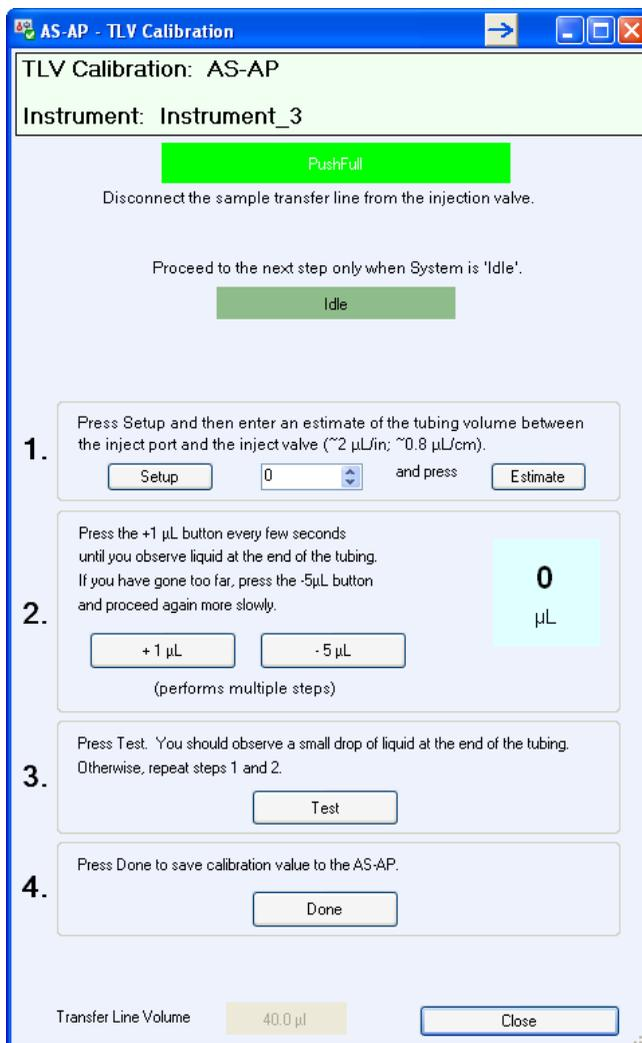
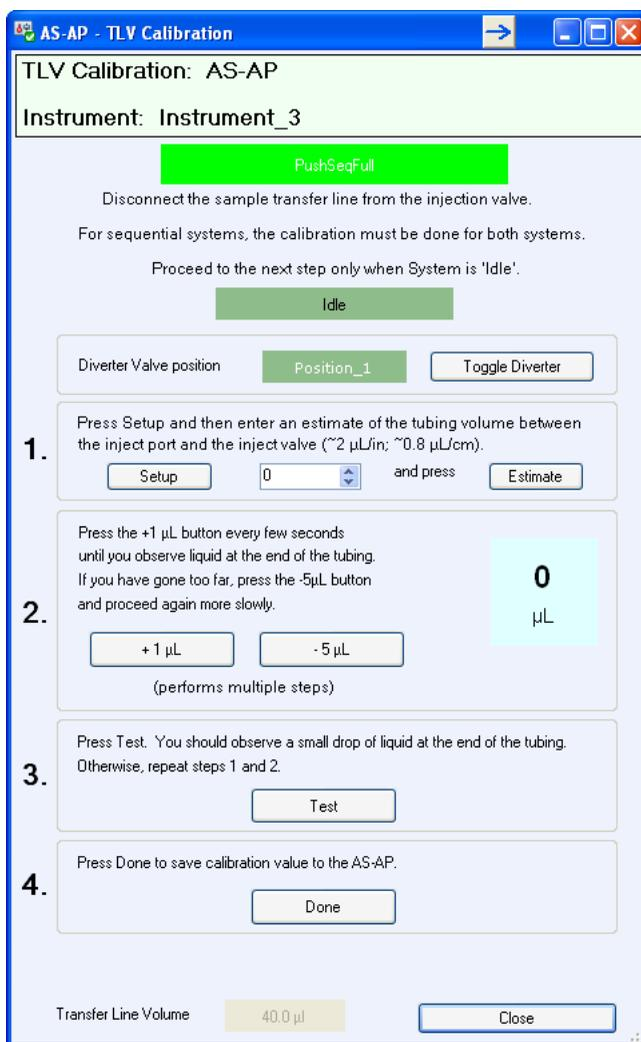

Figure 5-45. TLV Calibration Panel (Push Injection Mode)
Figure 5-46. TLV Calibration Panel
1. On the Dionex AS-AP ePanel (in Chromeleon 7) or Control panel (in Chromeleon 6.8), click **TLV Calibration**. The TLV Calibration panel appears (see Figure 5-45 for push mode or Figure 5-46 for push sequential mode).